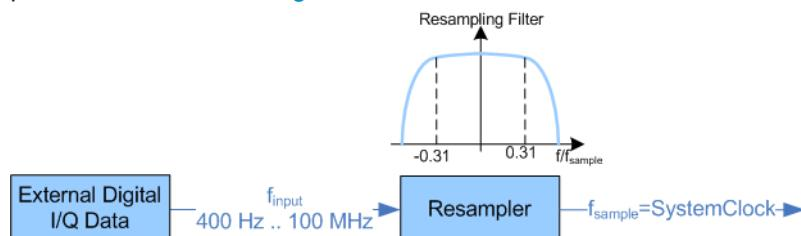

Figure 5-41: Resampling principle of external digital baseband signals
- External input signals with sample rates different than the system clock are resampled, as illustrated on Figure 5-41.
- A baseband signal with a sample rate that is smaller than the used system clock is interpolated (see Figure 5-41). With R&S SMBV-B10, the resulting modulation bandwidth is calculated as *Sample Rate* * 0.62, i.e. with a sample rate of exactly 100 MHz, the modulation bandwidth is 62 MHz.